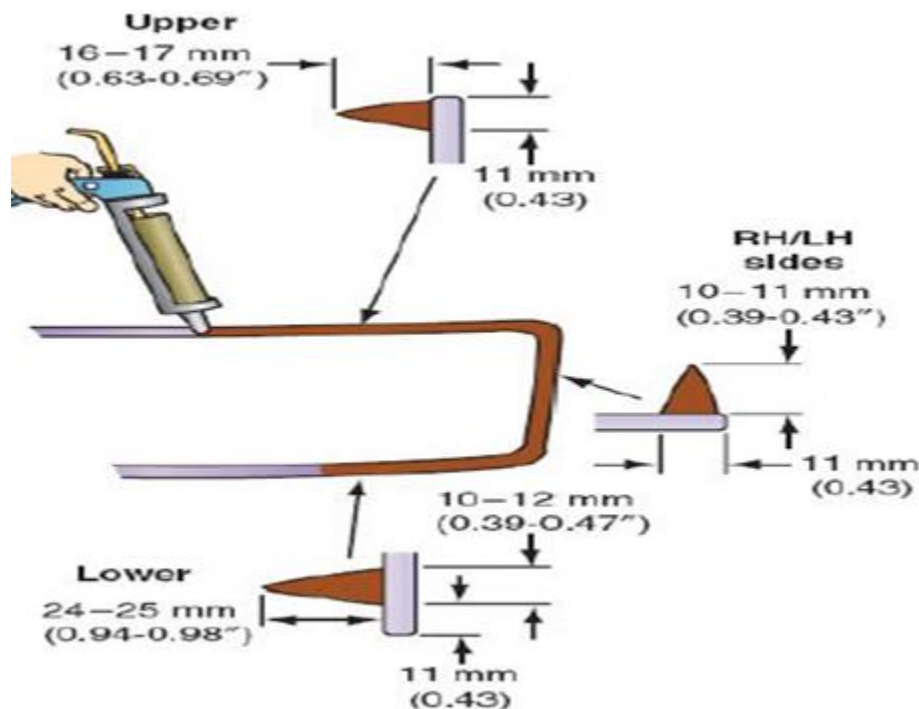

Fig.2.7. Apply the sealant directly behind the ribbon sealer
21. Apply the sealant directly behind the ribbon sealer down on the pitch weld do not apply sealant on antenna lead wires (see Fig 2.7)